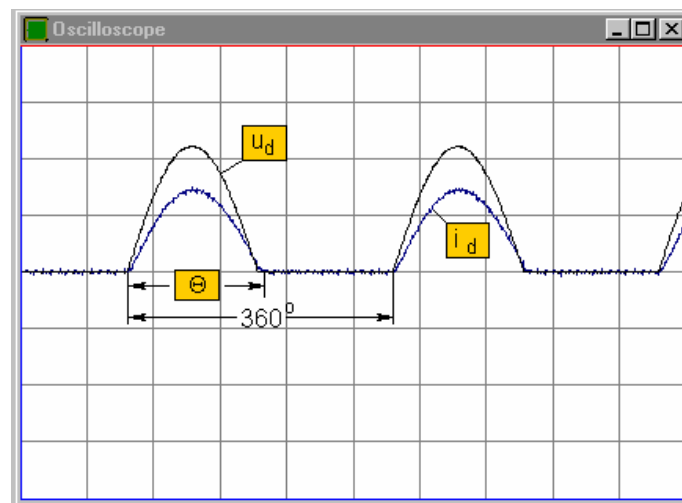

Figure 1-9 Single-phase half-wave rectifier for resistive load
10. Click **Run** on the panel to display the voltage and current waveforms as seen in Figure 1-9.